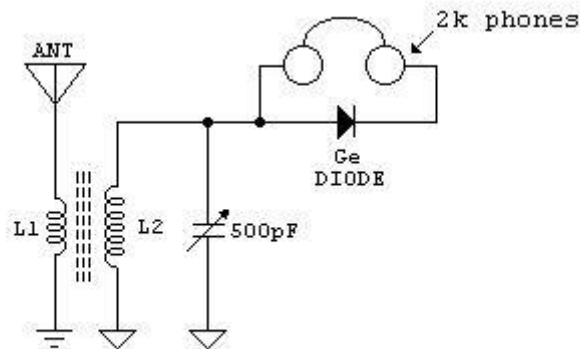

Fig.4 Floating-diode crystal receiver
Before going into the group of circuits featuring post-detection audio frequency (AF) amplification, let's take a look to the configuration shown in Fig.4. The germanium diode paralleling the 2000-ohms headphones appears to be floating above ground. Apparently there is something wrong with the schematic. However, if we realize that something must be coupling radio energy from the diode's cathode end to the circuit's common ground, permitting proper operation of the receiver, we will be on our way into solving the mystery.